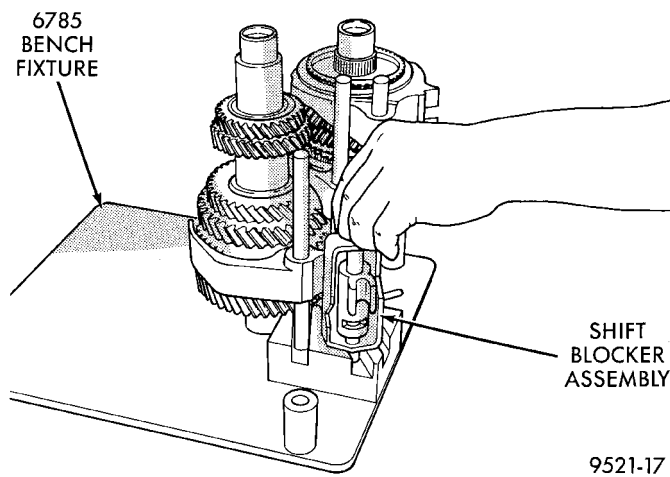

Fig. 59 Shift Blocker Installation
(3) Install shift blocker assembly into bench fixture (Fig. 59).